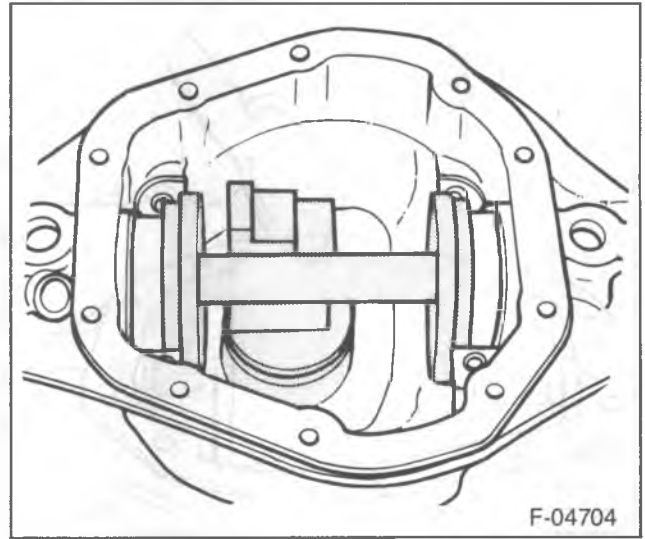

Figure 65—Pinion Height Block
5. Install D-116-1 onto D-120 and against the arbor (figure 65).